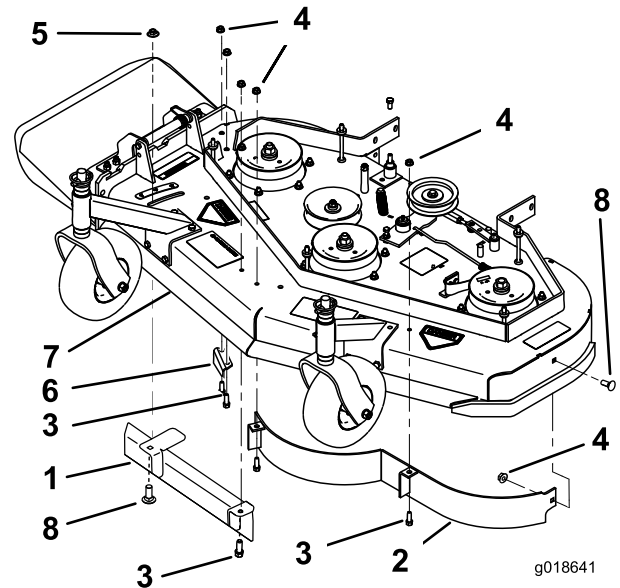
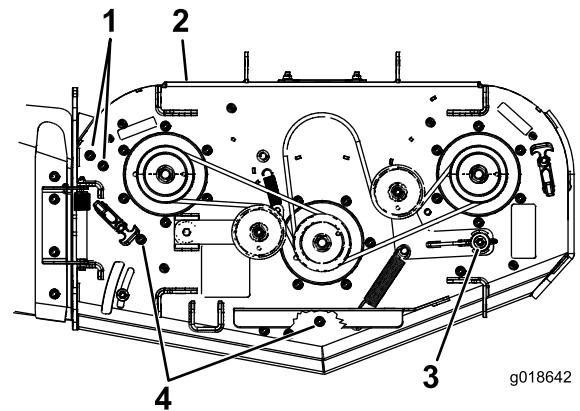

Figure 3
Figure 4
1. Remove the nuts and bolts holding the left front baffle in place (Figure 3 and Figure 4).
2. Remove the nuts and bolts holding the discharge baffle in place (Figure 3 and Figure 4). Install the nuts and bolts to cover the holes after the baffle is removed.
3. Remove the large flanged nut and bolt or cam lock and washer by unscrewing it from the adjustable flow baffle (Figure 3).
4. Remove the nut and bolt holding the adjustable flow baffle in place (Figure 3).